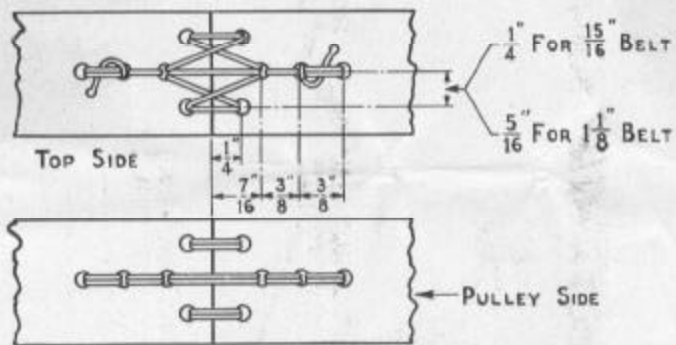

Fig. 11. Spacing of holes for  $15/16$ " and  $1\frac{1}{8}$ " belts.
**LACED BELT SPLICE**—Leather belts may be laced with gut or rawhide thongs. Trim the ends of the belt square (using a try-square) and punch or drill  $\frac{1}{8}$ " holes spaced as shown in Figs. 11, 12, and 13.